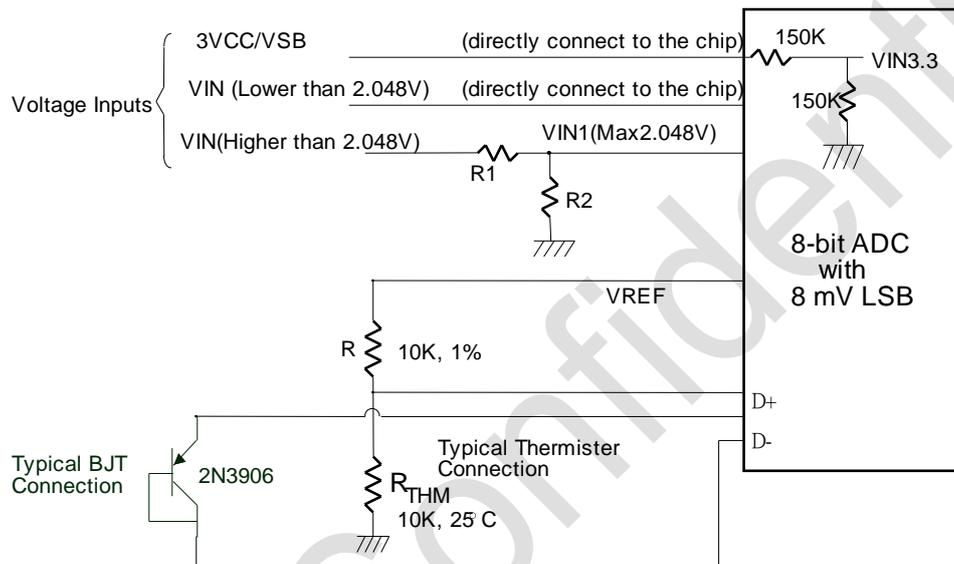

Figure 2. Hardware monitor configuration
The F71868A can connect three thermistors to measure environment temperature or remote temperature. The specification of thermistor should be considered to (1) β value is 3435K (2) resistor value is 10K ohm at 25°C. In the Figure 2, the thermistor is connected by a serial resistor with 10K ohm, then being connected to VREF.
Also, if the CPU, GPU or external circuits provide thermal diode for temperature measurement, the F71868A is capable to these situations. The build-in reference table is for PNP 2N3906 transistor. In the Figure 2, the transistor is directly connected into temperature pins.